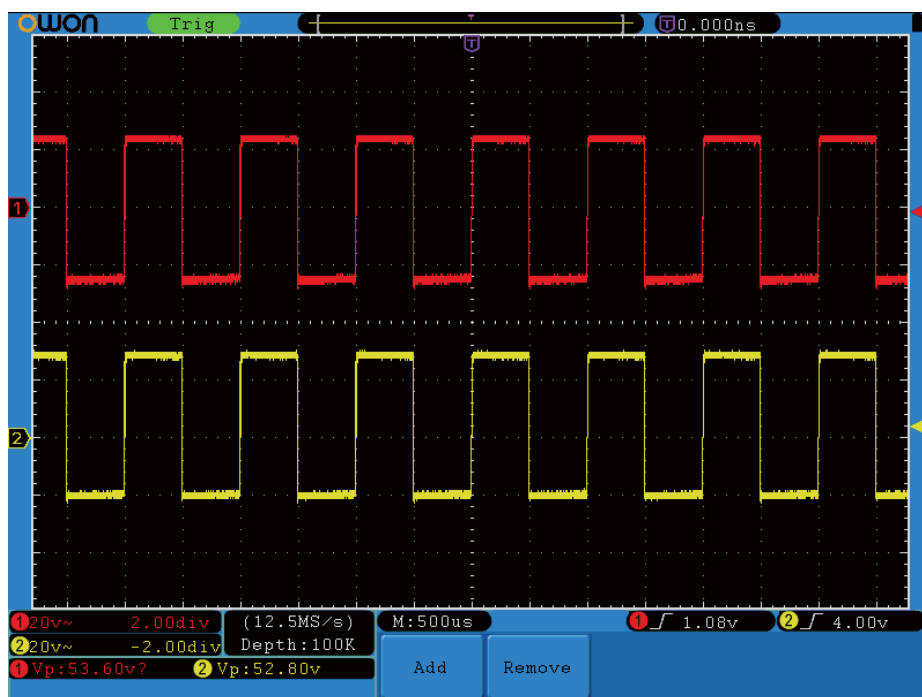

Fig.6-2 Waveform of Gain Measurement
8. Read the peak-to-peak values of Channel 1 and Channel 2 from the left bottom of screen. (see **Fig.6-2**).